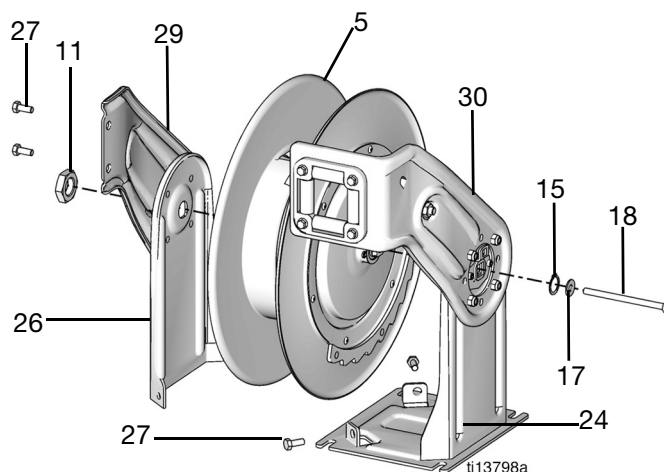

FIG. 21
- Remove the large nut (11) (FIG. 21).
- Remove the two screws (27) holding the pedestal (26) to the base (24) and the two screws (27) holding the guide arm (29) to the guide arm (30) (FIG. 21).
- Completely remove, as one piece, the guide arm (29) and pedestal assembly (26) and set it aside for re-installation on the new spool (FIG. 21).
8. Lay the hose reel on its side to easily access the guide arm (30) and pedestal (24).
9. Remove the long bolt (18) and washers (15 and 17) (FIG. 21).